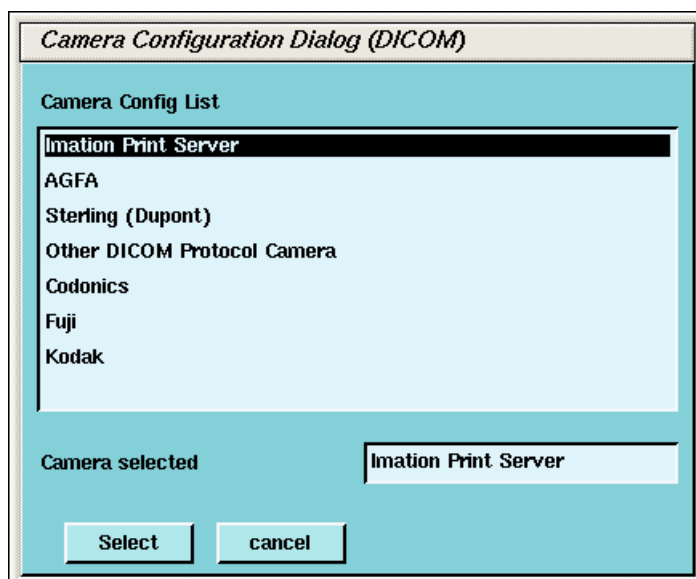

Figure 7-14 Camera Model Dialog (DICOM)
- a.) A list of camera models appears (See Figure 7-14). Select the appropriate model from the list and click SELECT. Clicking SELECT presets all the parameters to that models except the Network parameters.